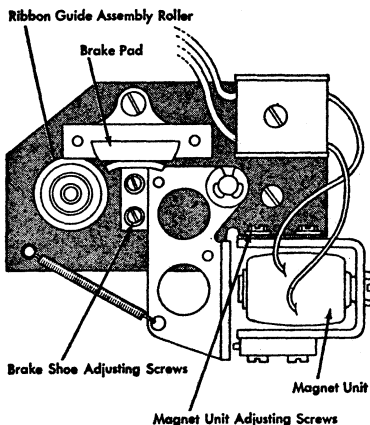

Figure 4. Stationary Magnet Unit Assembly
6. STATIONARY MAGNET UNIT ASSEMBLY. Adjust the magnet unit left or right by means of the magnet unit adjusting screws so that with the armature held manually against the magnet unit rubber stop, there is a clearance of .012" to .015" between the magnet core and the armature. With the armature attracted to the magnet, the brake shoe should clear the brake pad by .010" to .012". Adjust by means of the brake shoe adjusting screws. The ribbon must be held fast by the stationary brake with the armature dropped (Figure 4).